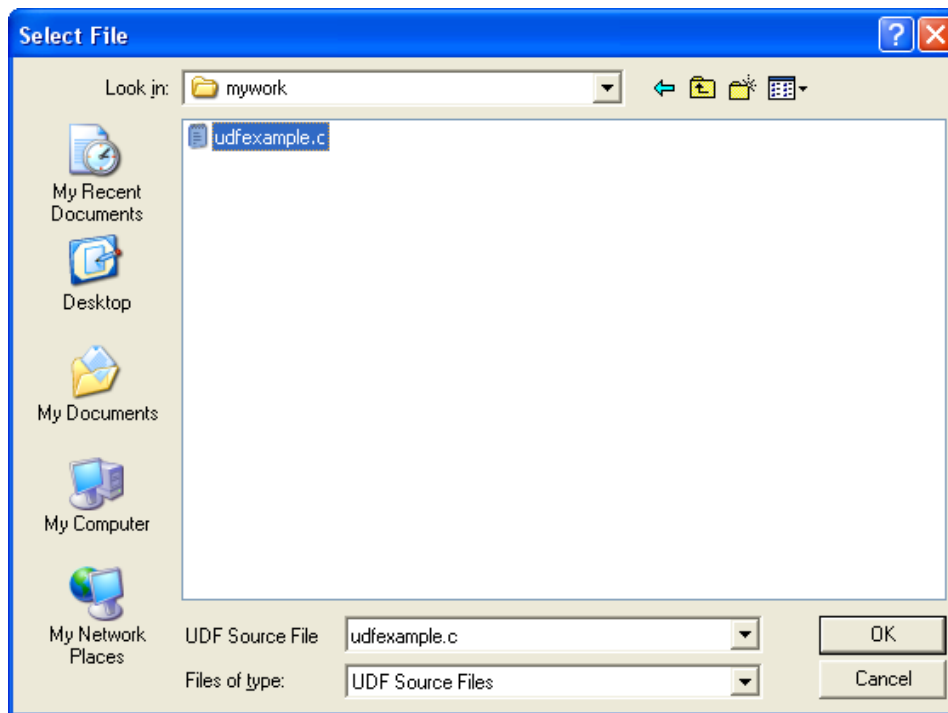

Figure 8.1.7: The Select File Panel
5. Click Add... under Source Files in the Compiled UDFs panel. This will open the Select File panel (Figure 8.1.7).